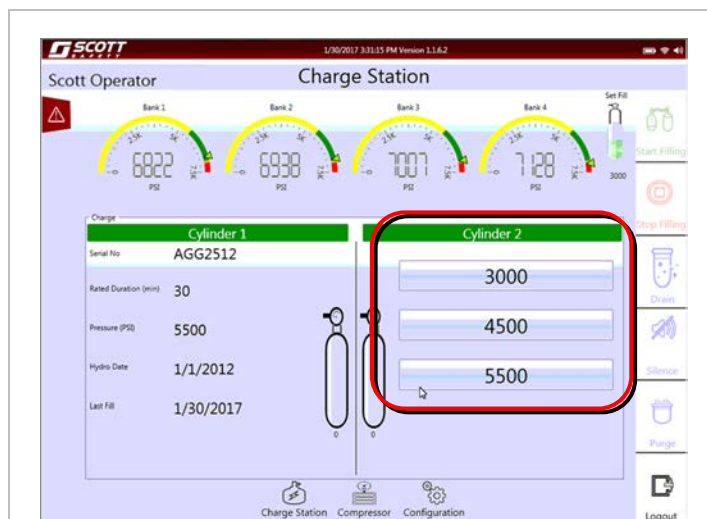

Figure 3.7-1: RFID and Non RFID
1. Filling a combination of RFID and Non RFID cylinders is possible with the RevolveAir Connect charge station. See Figure 3.7-1.